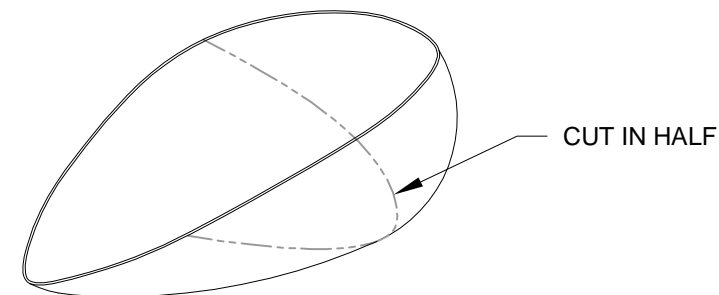

FIGURE 4: LENS MODIFICATION
Step 3: Cut the VA-193 Wing Tip Light Lens in half as shown in Figure 4. Determine the right and left lenses by placing them on their respective wing tips, then set the VA-193-R Right Lens aside.